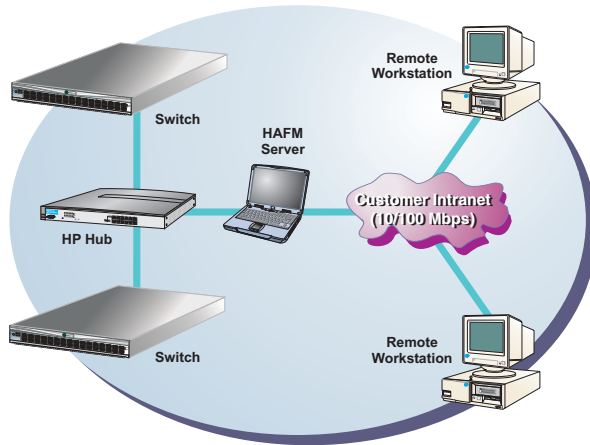

Figure 1-7: Typical Network Configuration (Two Ethernet Connections)
- Part of a second HAFM server interface that connects to a customer's private intranet and allows operation of the product manager application from remote user PCs or workstations. Connection to this LAN segment is optional and depends on customer requirements. A network configuration using both Ethernet connections is shown in Figure 1-7.